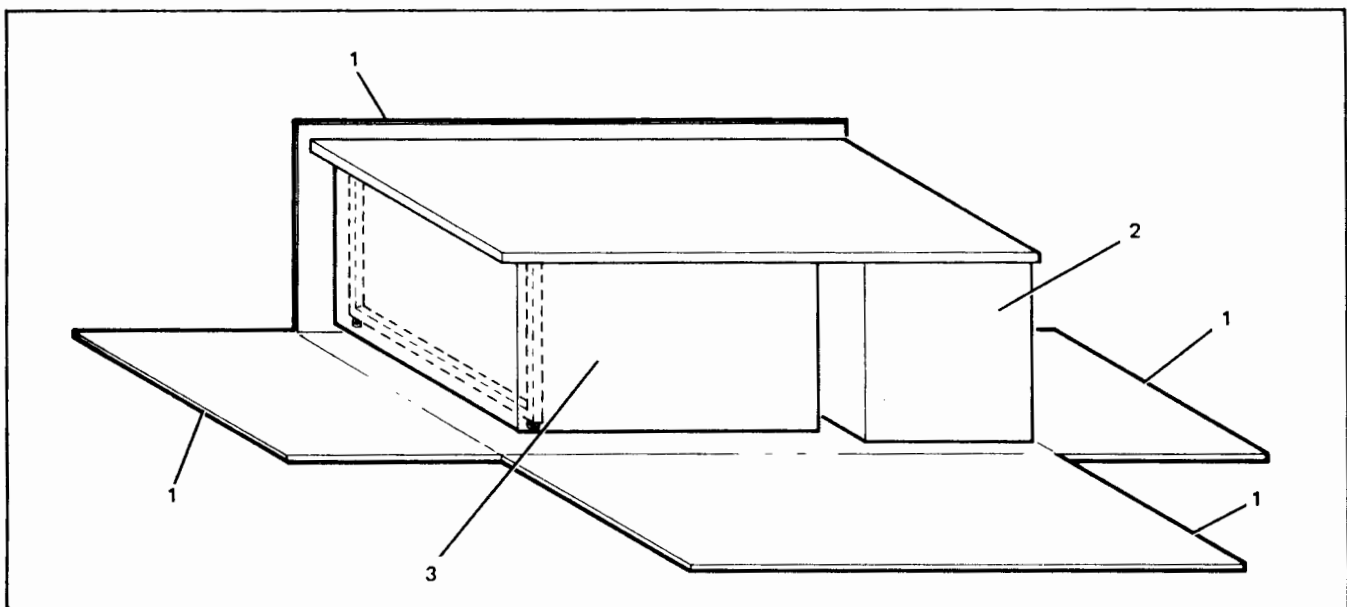
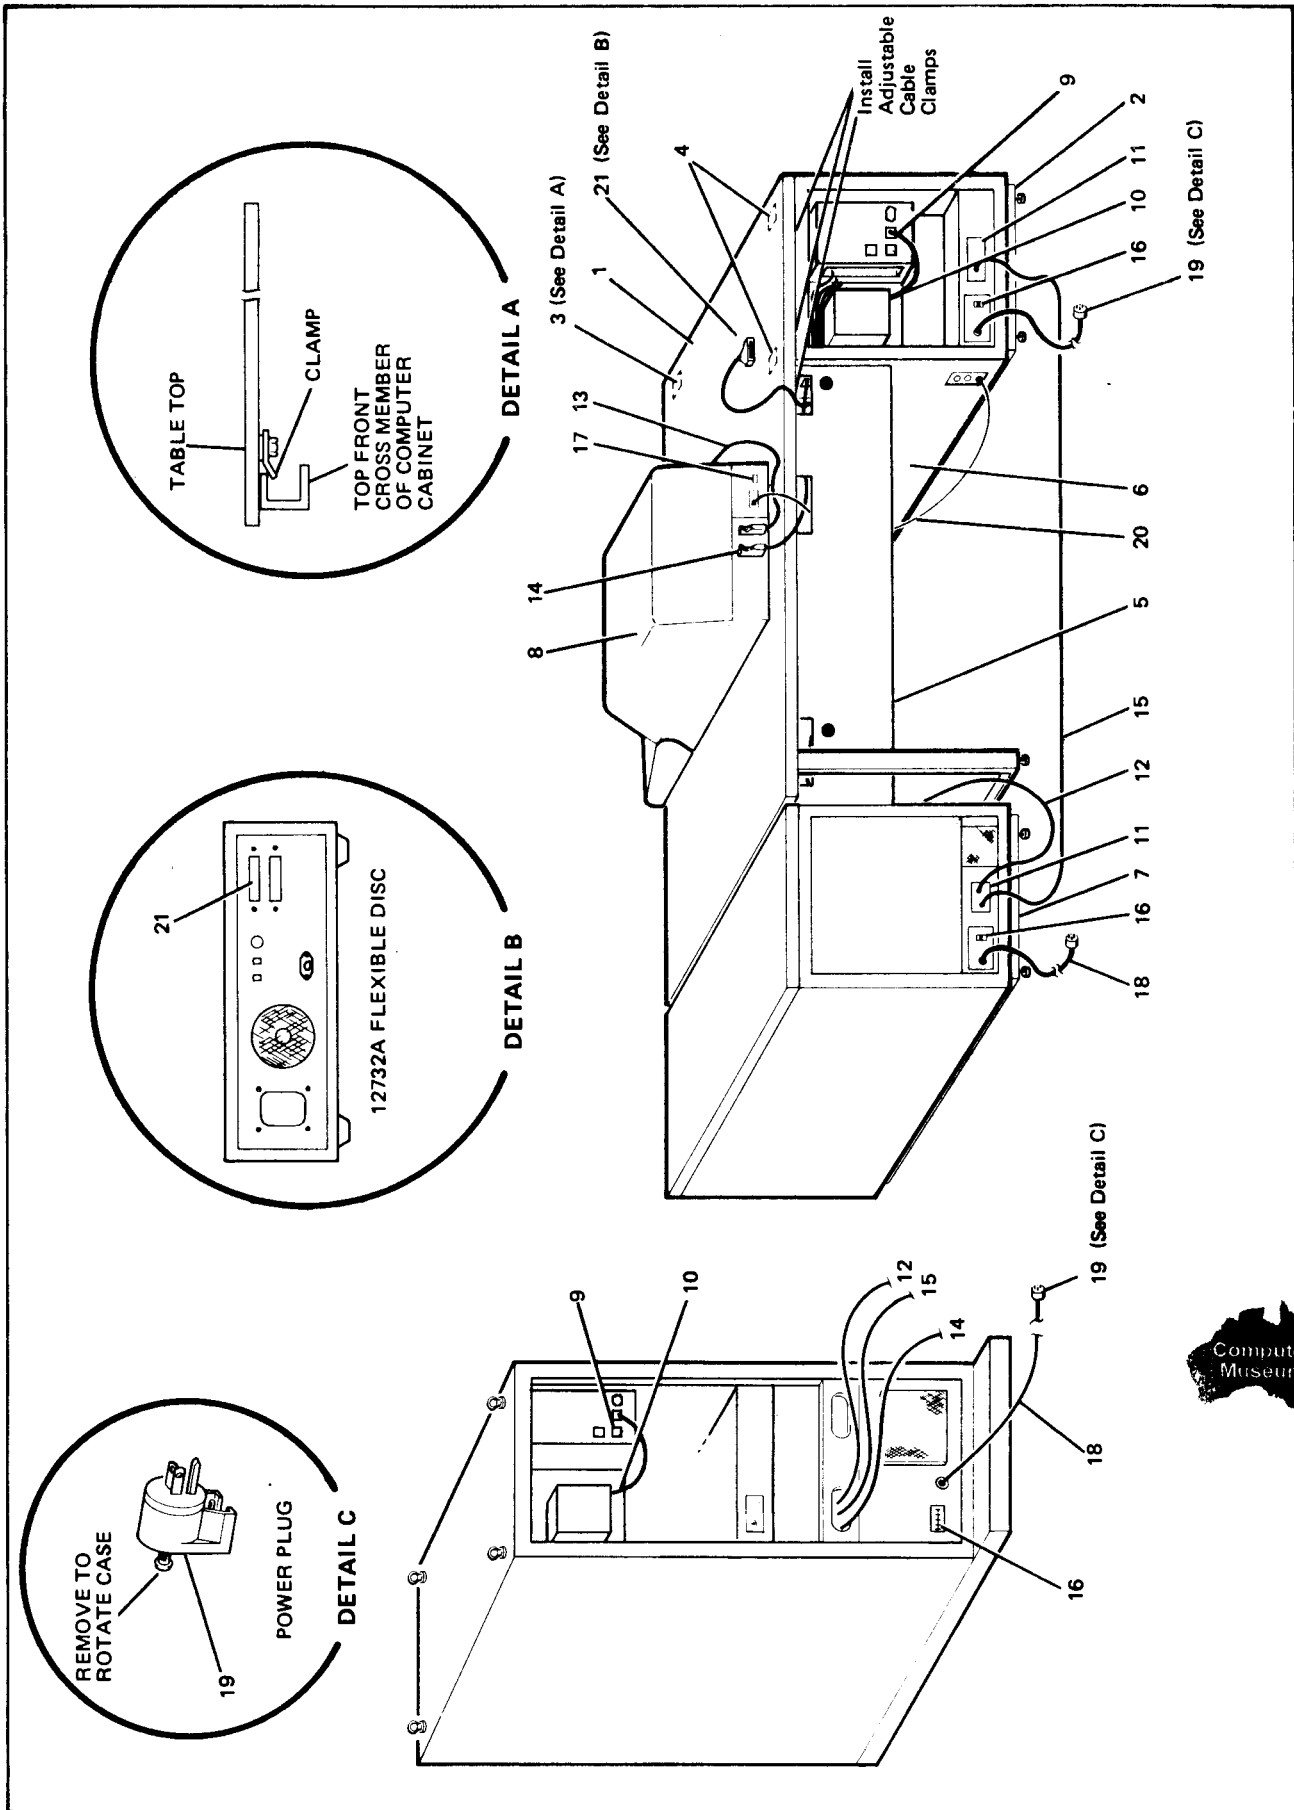

Figure 1-1. Desk Top Carton Disassembly
Figure 1-2. System Installation Details (Rear View)
The 1.8 metre (72-inch) desk top for the computer cabinet is shipped in a carton (figure 1-1). The cabinet supports the end of the desk top opposite the Leg assembly.
- Cut open the top of the carton and carefully cut away the sides (figure 1-1 item 1)
- a. Remove the packaging support (figure 1-1 item 2) located under the front clamps of the desk top assembly. Raise the top of the desk slightly and slide the packaging support out from under the desk.
- c. Carefully cut and remove the remainder of the support packaging (3) and lower the desk top onto the cabinet. Exercise care while cutting to avoid scratching the paint on the desk key or cable tray.
- d. Engage the two clamps on the bottom surface of the desk top with the top front crossmember of the cabinet frame as shown in figure 1-2 (detail A.)
- e. Using a 3/8-inch nutdriver, attach the bottom surface of the desk top to the mounting brackets (4) at the top rear of the cabinet with the two 1/4-20 × 5/16-inch screws supplied. The mounting hardware is located in a package taped to the bottom of the desk top assembly.
- f. Using a 5/16-inch nut driver attach the cable through (5) to the side panel (6) of the computer cabinet with the two 10-32 × 1-inch screws supplied. Ensure that the cable trough is firmly bolted to the side panel before attempting to move the cabinet with the desk top attached.
- g. Using a screwdriver attach the three adjustable cable clamps to the bottom rear of the desk top with the #8 tap screws supplied (see figure 1-2). After cabling of the desk mounted equipment is complete, dress the cables through the cable clamps and tighten the clamps.
Carefully move the disc cabinet into position as shown in figure 1-2. Adjust the levellers so that the cabinet is level with respect to the desk.
Place the disc on the desk as shown in figure 1-2.
- b. Remove the I/O card cage cover and battery pack (figure 1-2 item 10) by loosening the four captive screws on the cover. Ensure that the battery pack cable is disconnected from the "BAT INPUT" connector (9).
- a. The interface cable, part no. 12966-60008 (figure 1-2 item 14) is in the computer cabinet with one hooded connector connected to the 12966-60004 PCA. This card is identified by "BACI 12966" marked on the extractor. Uncoil the cable and pass the end through the cabinet access hole into the cable trough (for desk models) and up to the console.
- c. Connect the hood connector on keyboard cable 02640-60081 (13) to the console PCA that has been notched to match the cable connector.
- d. Connect one end of the system console power cord (20) to the ~LINE connector on the system console and the other end to a convenience outlet on the side panel (6) of the computer cabinet.
- f. Locate the interface cable 12966-60008 (figure 1-2 item 14). Connect the hooded connector marked ASYN DATA to the 12966-60004 PCA. This card is identified by "BACI 12966" marked on the extractor. Uncoil the cable and pass the end through the cabinet access hole into the cable trough (for desk models) and up to the console.
- h. Connect the hood connector on keyboard cable 02640-60081 (13) to the console PCA that has been notched to match the cable connector.
- i. Connect one end of the system terminal power cord (20) to the ~LINE connector on the terminal and the other end to a convenience outlet on the side panel (6) of the computer cabinet.
- a. The interface cable, part no. 12735-60003 (figure 1-2, Item 21) is in the computer cabinet with the dual-hood connector on the PCA's labeled "FLEX DISC I/F 1" AND "FLEX DISC I/F 2". Flex disc I/F 1 is in the lower numbered (higher priority) slot and flex disc I/F 2 is in the next higher numbered (lower priority) slot. Ensure that the connector is seated firmly on the two PCA's.
- a. Unlock and open the rear door of the cartridge disc subsystem cabinet. Remove the ac power cord and plug the female end into the recessed receptacle (figure 1-2 Item 18) on the rear of the cabinet. (Do not connect to ac power mains at this time.)
- e. Locate interface cable, part no. 13037-60015 and the copper-braid grounding cable stored in the bottom of the cartridge disc subsystem cabinet. Pass these cables (12 & 15) through the cabinet cable entry opening, along the cable trough (5), and into the interior of the computer cabinet (2), as shown in figure 1-2. If more convenient, the cables may be laid on the floor between the cabinets and routed into the computer cabinet via the cable entry opening. Dress these cables (and any others laid on the floor) close to the equipment to prevent personnel from stepping or tripping on them. The braided ground cable is not required with 7920 disc drives.
- a. Remove the insulators from the BAT. INPUT connector and connect the battery load simulator plug (BLSP), part no. 12991-60002 to the BAT. INPUT connector (figure 1-2, item 9).